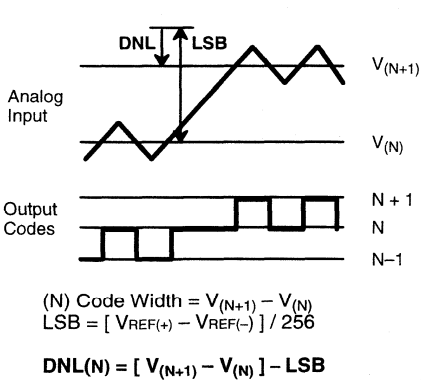
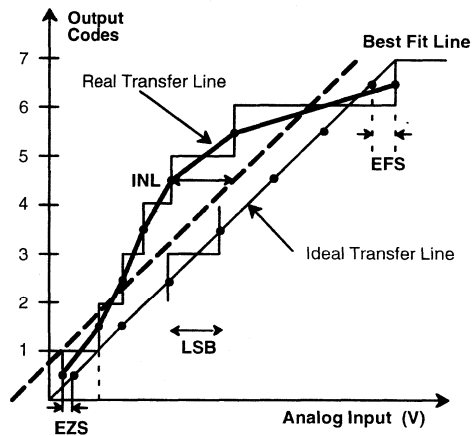

Figure 3. DNL Measurement
Figure 4. INL Error Calculation
- Tester measures code transitions by dithering the voltage of the analog input (V_{IN}). The difference between the measured and the ideal code width (V_{REF}/256) is the DNL error (*Figure 3*). The INL error is the maximum distance (in LSBs) from the best fit line to any transition voltage (*Figure 4*). Accuracy is a function of the sampling rate (F_S).